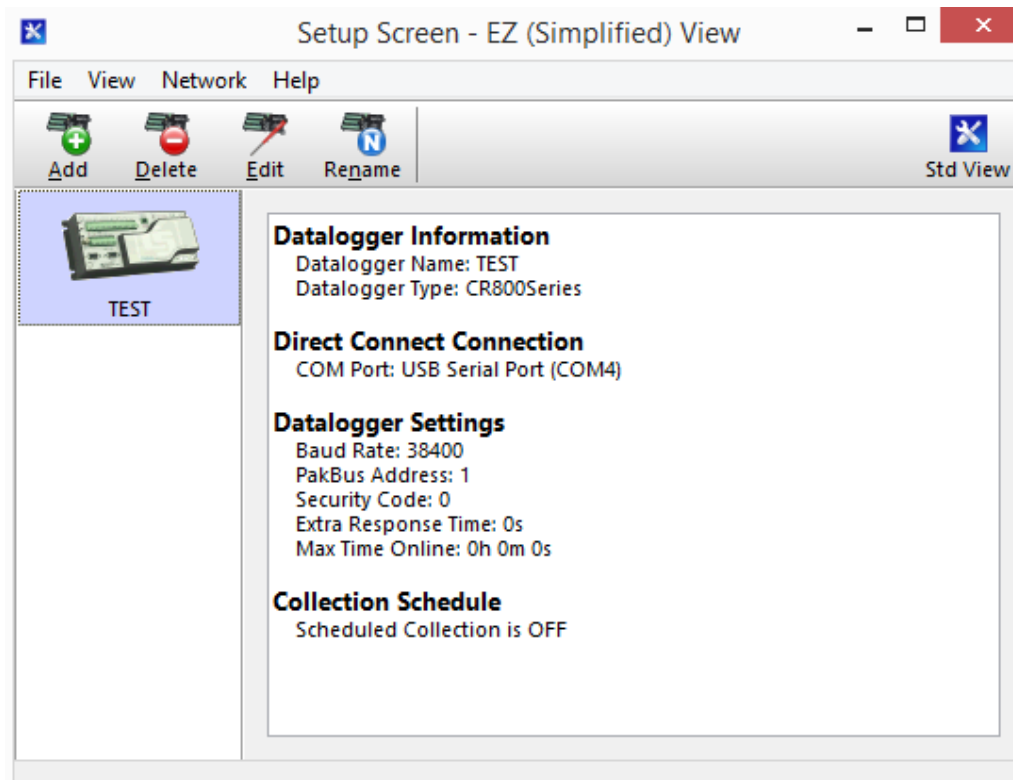

Figure 4.11: A completed first run through of the Setup.
2. Double Click the desired Project on the left of the 'Setup' window (**Figure 4.11**).